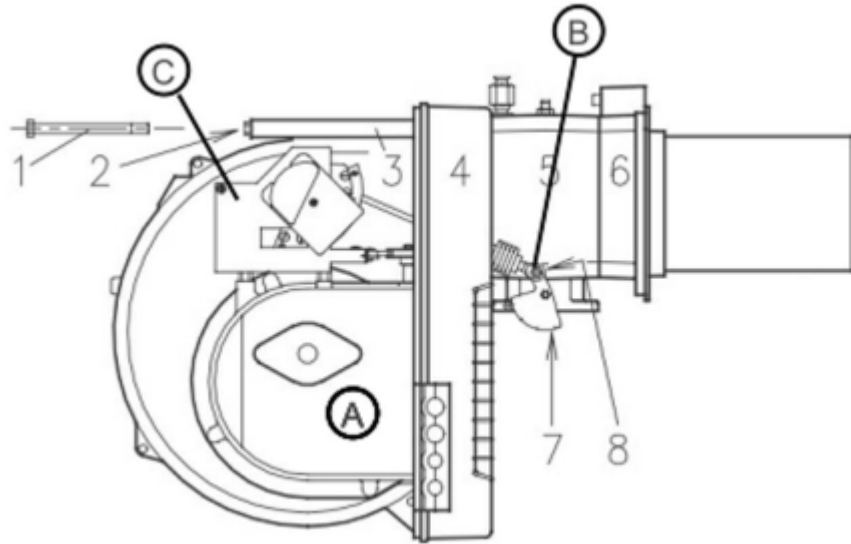

Figure 5.17: Riello Cleaning diagram
1. Remove the damper servo gas control arm (B) from the gas butterfly cam by unscrewing the standoff post.
2. Remove the damper servo mounting cradle (C) screws.
3. Remove the blower intake cover (A) shown in figure 5.17.